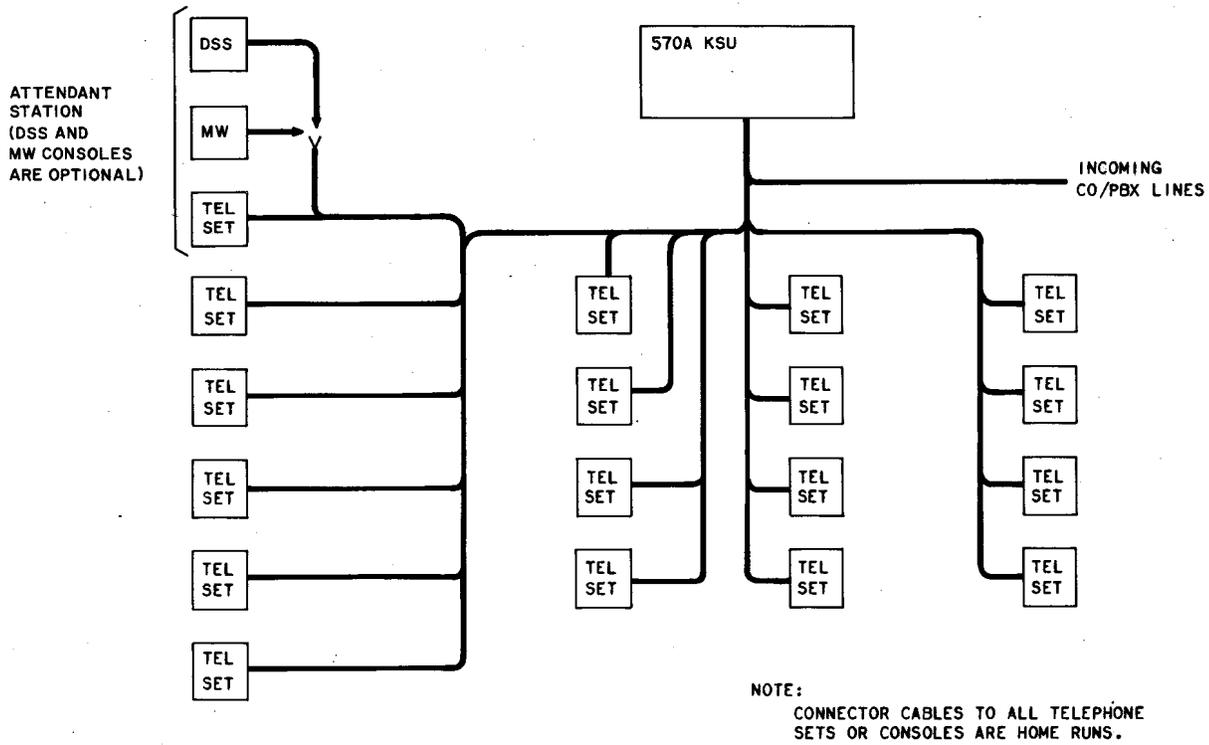

Fig. 1—Block Diagram of 7A Communication System
1.02 The 7A Communication System (Fig. 1) will accommodate a maximum of 7 CO/PBX lines and 18 stations. Switching apparatus for the system is housed in a 570A KSU. Telephone sets (832A and 2832A) are special 10-button sets providing basic services such as pickup, hold and illumination, two path intercom, voice and tone signaling, multiline conferencing and button restoration. Available optional features are privacy (lockout), privacy release, station restriction, paging (with or without background music), power failure transfer, night transfer, music on hold (utilizing customer provided music source), intercom preset conference, station busy console with DSS, station busy console with message waiting, TOUCH-TONE® dialing and speakerphone.